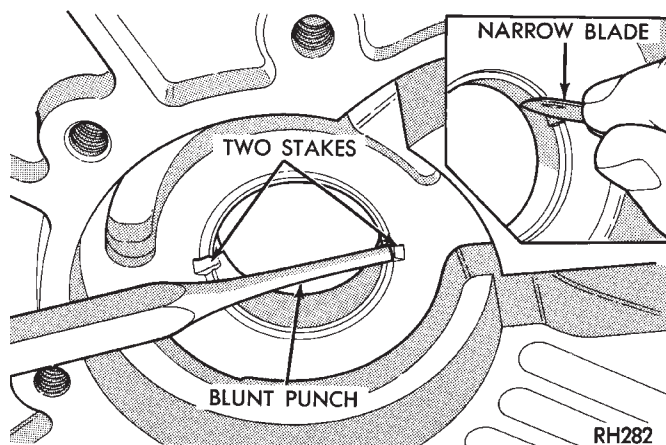

Fig. 45 Staking Oil Pump Bushing
(3) Stake new pump bushing in two places with blunt punch (Fig. 45). Remove burrs from stake points with knife blade afterward.